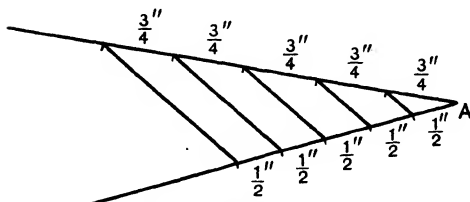

FIG. 1. PARALLEL LINES
1. The children draw two lines meeting at a point at any angle. Along one they mark off  $\frac{1}{2}$  inches and along the other  $\frac{3}{4}$  inches. They join the points in pairs, and discover that the lines obtained are parallel to one another, Fig. 1.